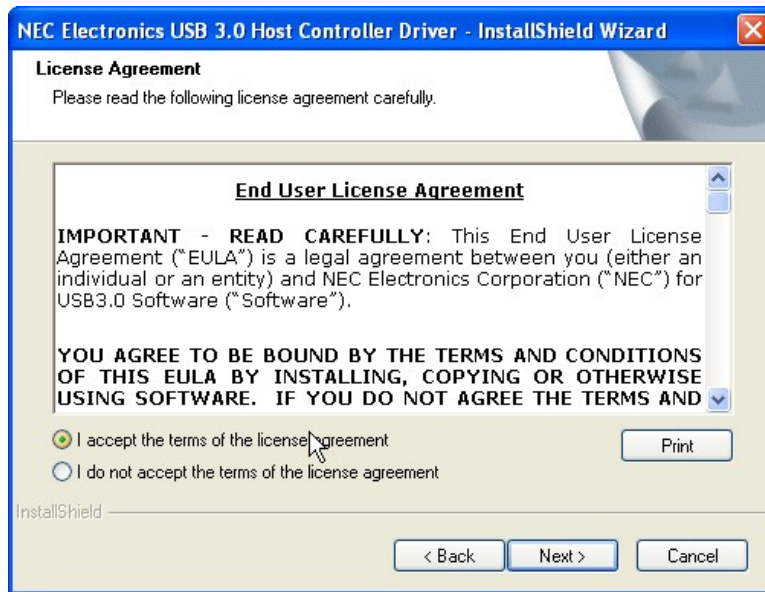

Figure 6-24: USB 3.0 Driver License Agreement
- Step 6:** The **License Agreement** shown in **Figure 6-24** appears.